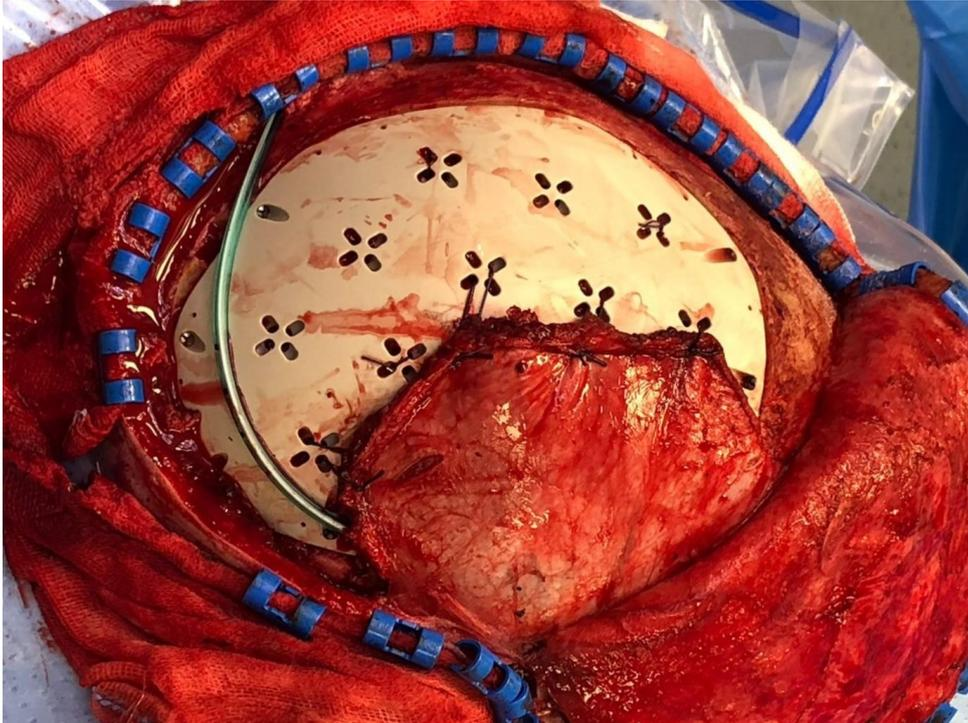

Figure 6: Stitching of the Temporal muscle to the outside of the inlay PEEK implant.
- 9) Stitching the temporal muscle to the outside of the implant through the XSuture (Figure 6) or implant Mesh.